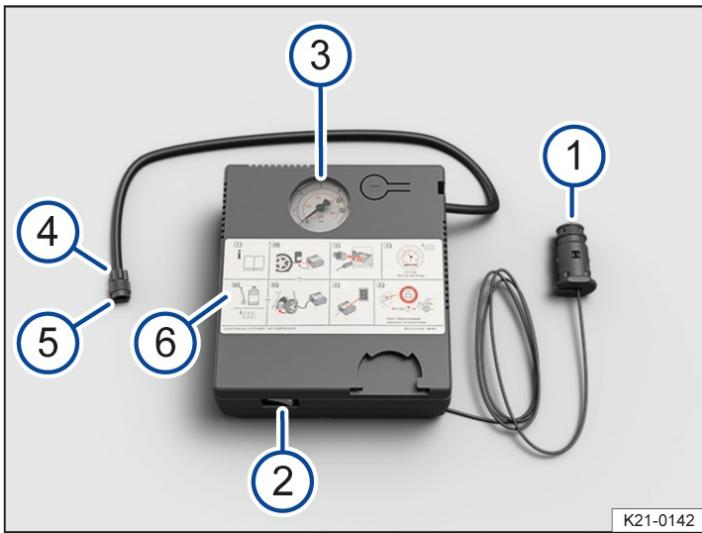

Fig. 2 Illustration: compressor from the breakdown set.
1. Screw the tyre filler hose → *Fig. 2* 5 of the air compressor tightly onto the tyre valve.
2. Make sure that the air bleed screw → *Fig. 2* 4 is closed.
4. Insert the 12-volt plug → *Fig. 2* 1 into one of the vehicle's 12-volt sockets (*→ Sockets*).
5. Use the ON/OFF switch → *Fig. 2* 2 to switch on the air compressor.